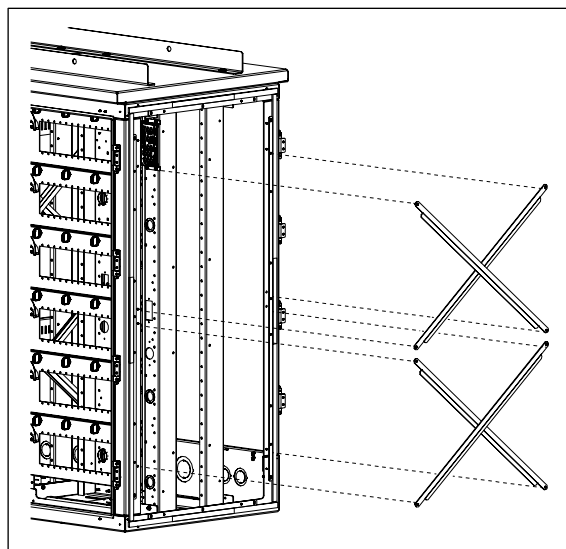

Figure 20 Attach Cross Braces
2. Locate the two sets of cross braces and hardware that ship with the ME-x. Use the Keps nuts to mount one set of cross braces to the open side of the MC-x installation (two nuts per cross brace, Figure 20). Mount the second set to the side of the ME-x bay that will face the MC-x installation.